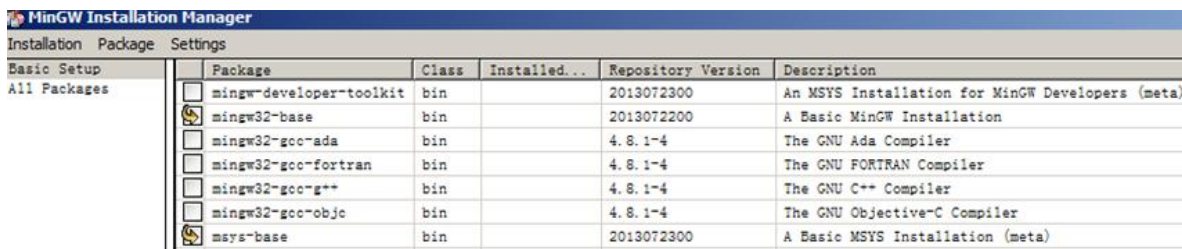

Figure-16 MinGW Installer
3. Select the mingw32-base and the msys-base under the Basic Setup as shown in Figure-16 MinGW Installer.